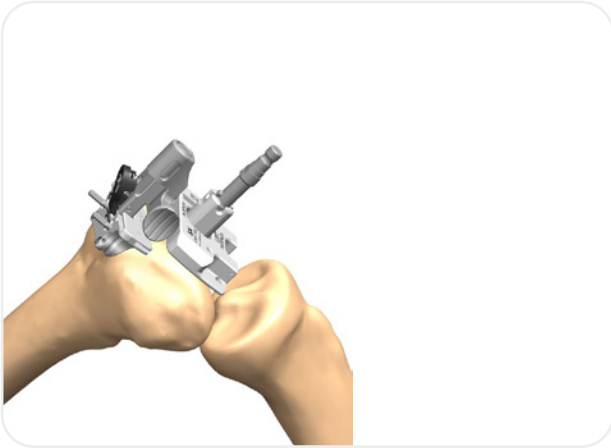

Figure 75
5. Push the button on the Valgus Bridge to remove the alignment assembly from the incision site (**Figure 75**). Only the distal cutting block should remain on the femur.